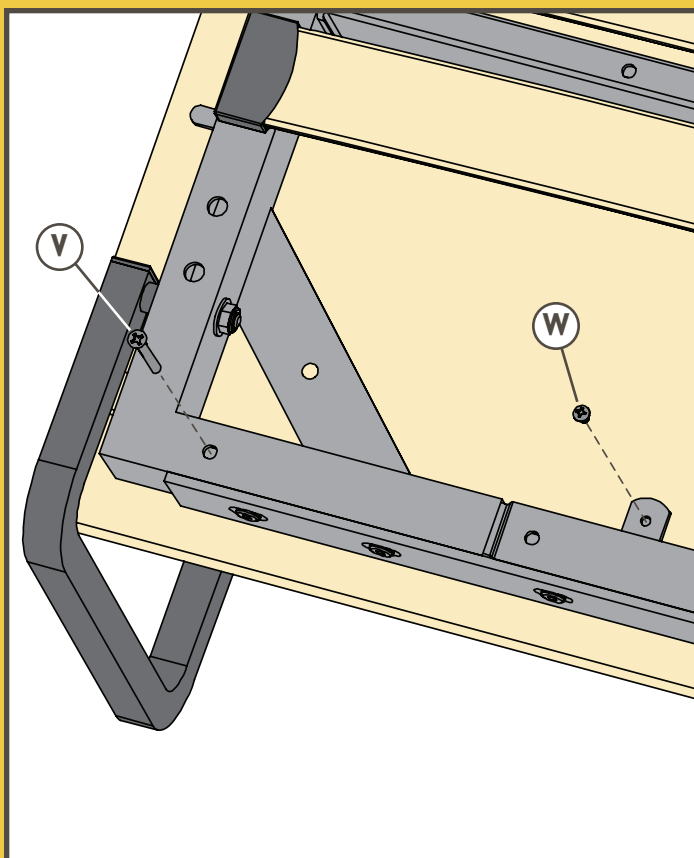

Fig. 18
6. Permanently attach the frame to the Door Panel(s) (5) by driving #8 x 15mm Screws (W) through the mounting tabs on the frame into the Door Panel(s). You will drive 20 screws for a Twin bed and 28 screws for a Full or Queen bed. **Fig. 18.**
7. Reinforce the connection by driving #10 x 55mm Screws (V) through mounting holes in the full frame at 26 locations around the frame. **Fig. 18.** Do NOT drive screws through the Long Center Frame Support (D).